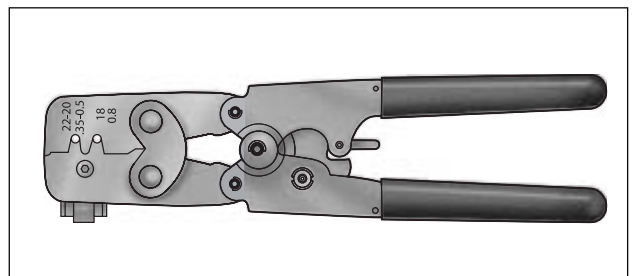

Figure 8-46. Packard Micro 64 Terminal Crimper (Part No. HD-45929)
2. Obtain the Packard Micro 64 Terminal Crimper (HD-45929). See Figure 8-46.